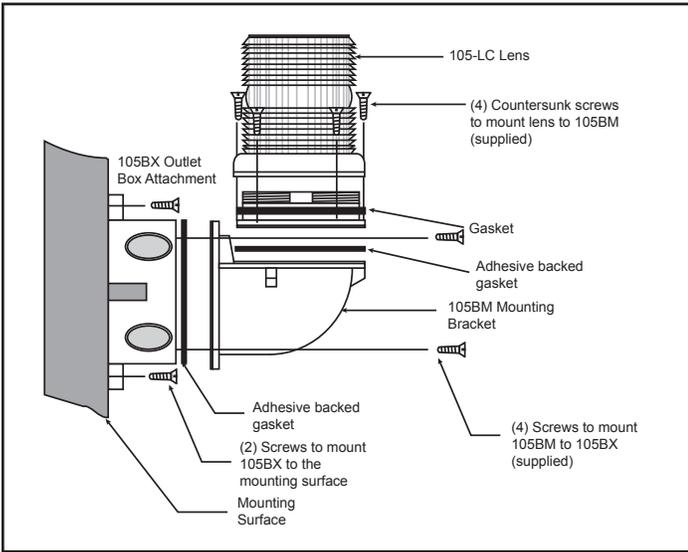

Figure 1. Mounting Cat. No. 105BM Mounting Bracket
While in most cases, the added layer of safety gained by operating a multi-status indicator with XTRA-SAFE Technology is desirable, some applications may not require differentiation in flash rates. In other applications, changes do not correspond to escalating levels of urgency. The adaptive design of the new Chameleon 105 XBRI allows the product to be adapted to accommodate these requirements by configuring the dipswitches as shown in Figure 1 (Applications WITHOUT a separate PLC or Controller - XTRA-SAFE Technology Disabled). With XTRA-SAFE Disabled, when red or amber, the unit pulses at a rate of 65 flashes per minute. When Chameleon multi-status indicators are turned green or blue and no other colors are energized, the Chameleon devices remain "steady on" and do not flash.
The Chameleon multi-status indicators can also be used in applications where they will be controlled "externally" using a Programmable Logic Controller (PLC) or other such external controller. When externally controlled by a PLC, activation of colors and flash-rate are fully customizable, and can be programmatically determined. In applications, where multiple colors are activated simultaneously, the lights operate on a priority with red highest, amber second and blue or green, the lowest. Refer to Figure 1 (Applications WITH a separate PLC or Controller). Wire color corresponds with each indicated color.
NOTE: When mounting using the Cat. No. 105BM mounting bracket, the Cat. No. 105BX outlet box attachment must also be used as shown in Figure 1.
- b. **Cat. No. 105BM:** Using the four supplied screws, secure the mounting bracket to Cat. No. 105BX outlet box attachment as shown in Figure 1. Attach the adhesive backed gasket to the top of the 105BM mounting bracket, being careful to line up the holes in the gasket with the mounting holes in the outlet box. Refer to Figure 1.
4. Mount 105XBRI Series as follows. Unscrew the gasketed base from the lens assembly as shown in Figures 1 and 2 and remove the clear gasket from around the base.
- a. Unscrew the lens from the bottom of base (Figures 1 and 2) and remove lens.
1. Unscrew the lens from the bottom of base (Figures 1 and 2) and remove lens.